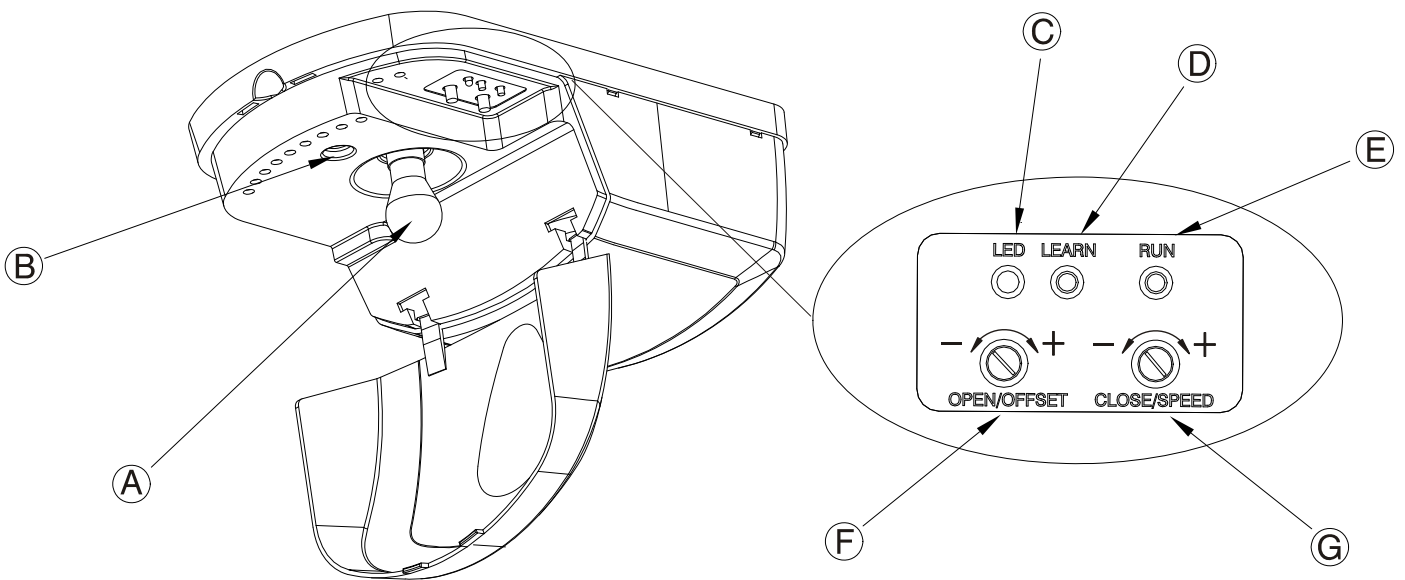

Fig. 18
- If the AGDO stops but does not reverse then turn the (red) Close / Speed Adjustment Pin 5 degrees in an anti-clockwise direction. (Fig.18-F)
- Will glow green when battery charger is charging (Fig.18-C)
- In the event of prolonged power outage the AGDO will automatically shut down (when battery voltage drops below 22 volts) in order to conserve remaining voltage - LED Indicator (Fig.18-C) will extinguish and the AGDO will cease to function.
- iii. remove the lamp bulb (Fig.18–A) by first pushing in and then turning anti clockwise (same as removing household light bulb)
- iv. remove the Control Box Cover Lock Screw point (Fig.18-B) Note: the Control Box Cover can be removed once the head of the screw is protruding by approx 5mm.
- Hinge open the Courtesy Lamp Cover to expose the bulb (Fig.18-A)
- i. hinge open the Courtesy Lamp Cover to expose the “Learn” Button (Fig.18)
- iii. momentarily press the “Learn” Button (Fig.18-D) – LED Indicator will glow solid (Fig.18-C)
- ii. momentarily press the “Learn” Button (Fig.18-D) – LED Indicator (Fig.18-C) will glow solid
- The “Learn” Button (Fig.18 - D) is located within the Lamp Cover adjacent to the “Learn LED” and serves to initiate the functions as described in the following table;
- The LED Indicator (Fig.18-C) is located under the Courtesy Lamp Cover and serves to indicate the functions as described in the following tables;
- The black “Run” Button (Fig.18-E) is located under the Lamp Cover and serves to initiate the functions as described in the following table;